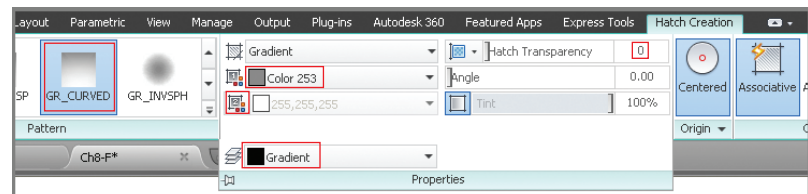

FIGURE 8.19 Configuring a gradient hatch
3. Scroll down in the Pattern panel, and select the GR_CURVED gradient. In the left column of the Properties panel select Color 253 (see Figure 8.19) in the Gradient Color 1 drop-down. In the right column, click the Gradient Tint and Shade button to create a one-color gradient. At the top of the right column, drag the Hatch Transparency slider all the way to the left until its value reads 0. Expand the Properties panel and select Gradient in the Hatch Layer Override drop-down. Click the Close Hatch Creation icon at the right edge of the ribbon.